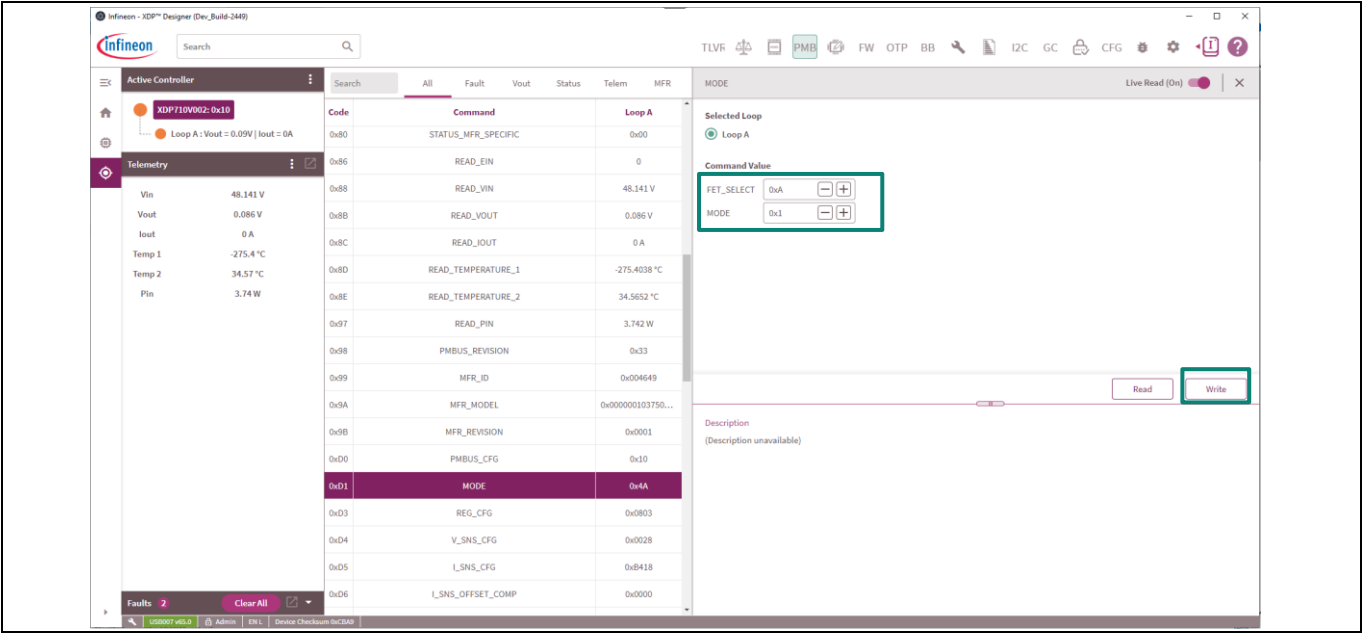

Figure 26 FET selection in FDM
- The board has FET **IPT015N10N5** populated and to select this FET, the FET\_SELECT bit should be modified to 0xA, then click **Write** as shown in Figure 26.